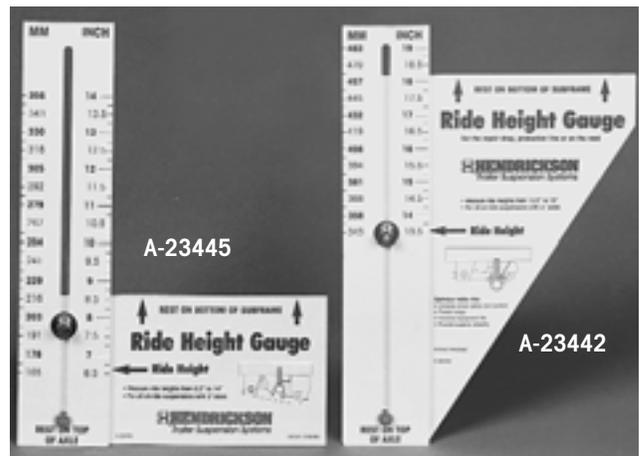

Figure 8. Hendrickson Ride Height Gauges
- Using the Hendrickson Ride Height Gauge (figure 8), measure the distance between the axle and the mounting surface of the suspension.